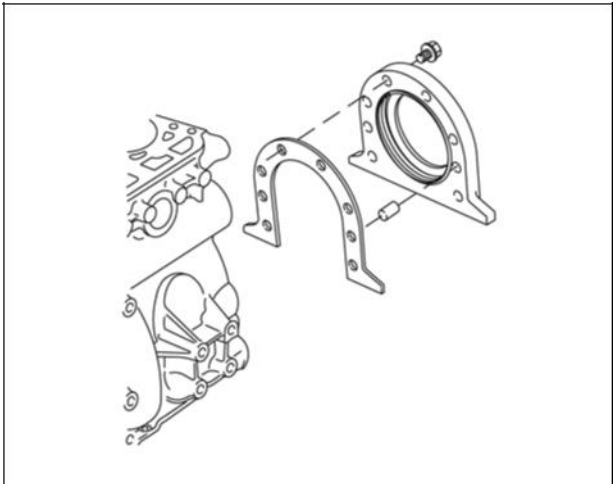

Figure 6
1. Install rear seal retainer with new gasket (Figure 6). Torque screws to values listed in Section 14 - Engine Specifications.